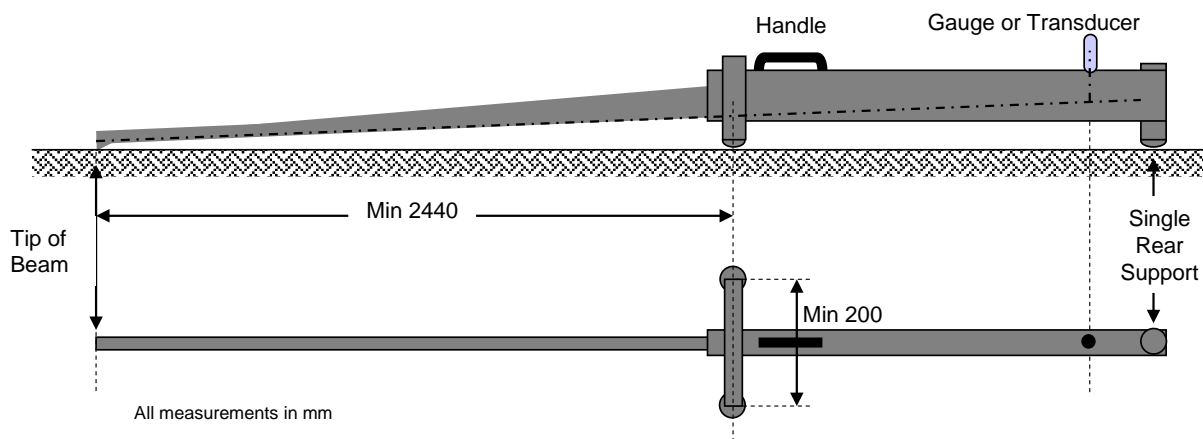

Figure 1 - Deflection Beam Components and Dimensions
- (a) A beam apparatus to measure deflection with distance between tip and support legs consistent with the details in Figure 1. The beam must be insulated from affects of temperature variation. The beam is to be fitted with a displacement measuring devices capable of capturing and measuring deflection values over the expected range of travel: